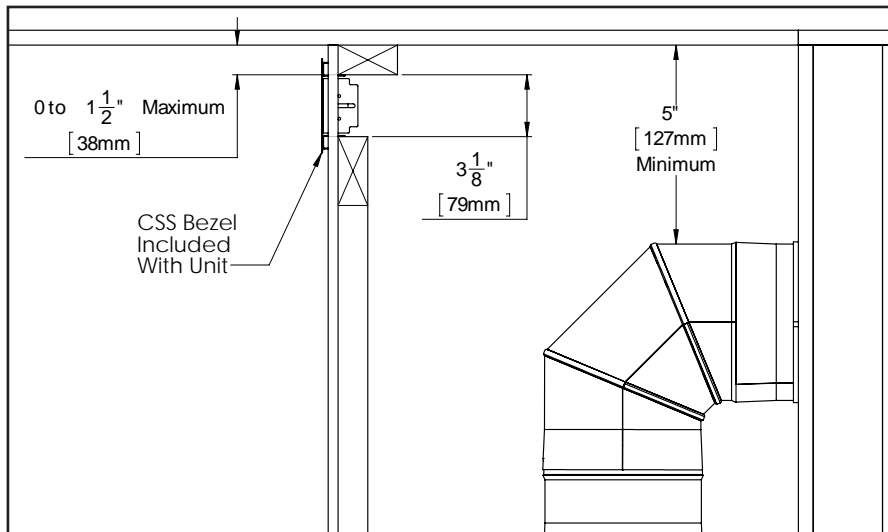

Figure 53: Option 3 Bezel
**Option 4: Bezel** - The included bezel may be desired to accentuate the CSS outlet. This installation will also cover the edge of the finishing material at the cutout. Construct the framing in a way that provides a 55 inch (1397mm) by 3 inch (76mm) cutout to mount the bezel. The top of the cutout must be 1 1/2" from the top of the chase. It is essential that these dimensions are followed and not to deviated from them when using combustible materials inside the chase (see Figure 53).